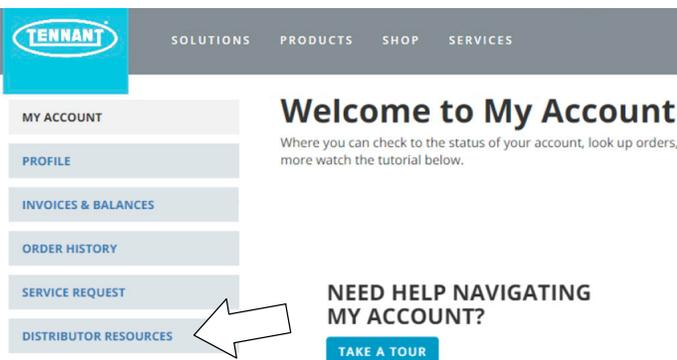

Fig. 25
2. Once logged in to the “My Account” website, click on the “DISTRIBUTOR RESOURCES” link as shown below (Figure 25).